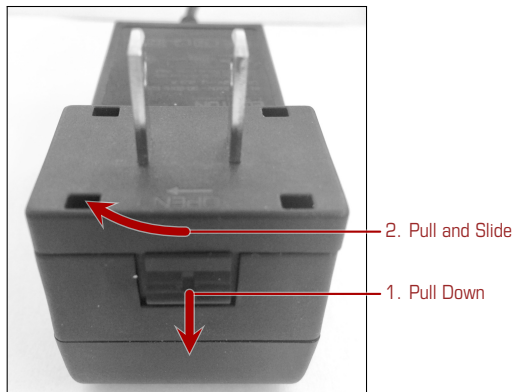

Figure 144: Removing an adaptor from the wall power supply
1. Press the lock and slide the current adaptor to the side out of its socket (Fig. 144, p. 116).